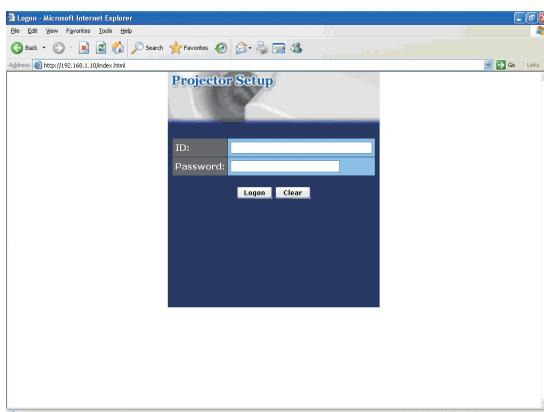

Fig. 2.3.4 “Logon Menu”
- 2) After enter your ID and password, if Fig. 2.3.4 appears, it succeeds.